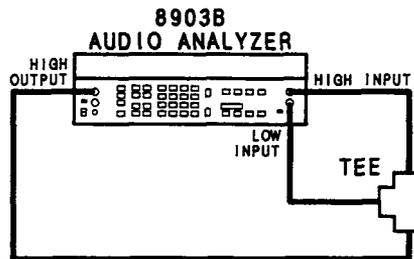

Figure 4-2. Common-Mode Rejection Ratio Test Setup
2. Connect the HIGH OUTPUT to the HIGH INPUT through the tee as shown in Figure 4-2.